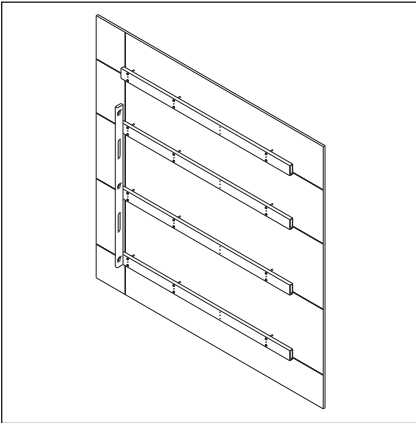

Figure 9: Ensure Plumb & Flat Tube Faces
9. Use a level to ensure the tube faces are plumb to the wall and flat to each other. Refer to **Figure 9**. If the tubes need Z-axis adjustment, add shims between the wall and the tube to adjust by 1/2" maximum. Ensure the shims bear the full height of the tube as shown in **Figure 10**. Tighten down the hardware.